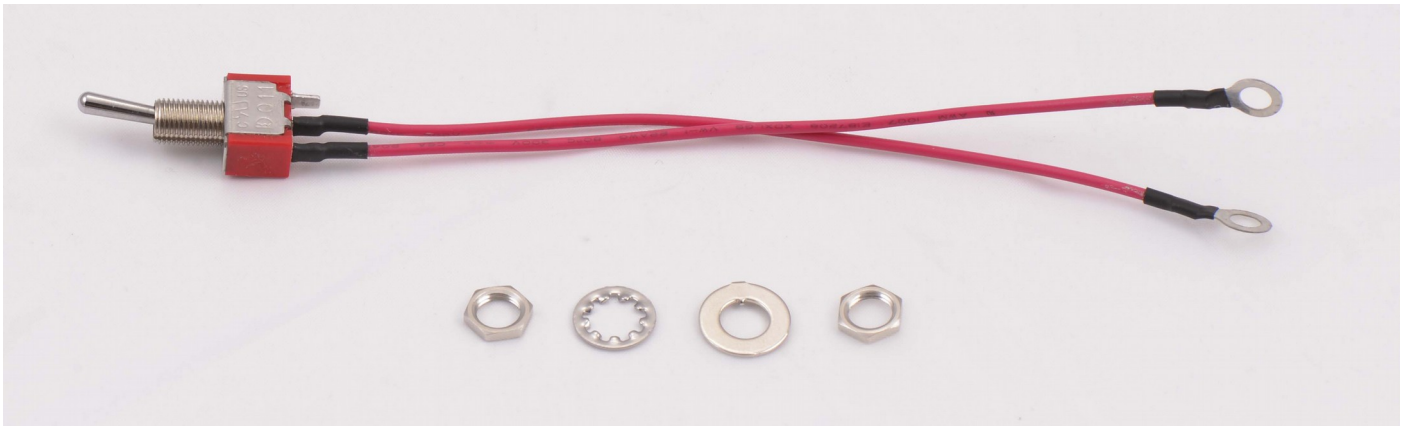

Figure 2.4
Locate the switch with the wires soldered in place. Also locate the flat and locking washers, and two (2) matching nuts. The nuts and washers are arranged in the proper order for installation of the switch. See figure 2.4.
Note: The switch is pictured (figure 2.4) in the **ON** position. The **OFF** position is when the lever is pointing away from the side with the empty terminal.